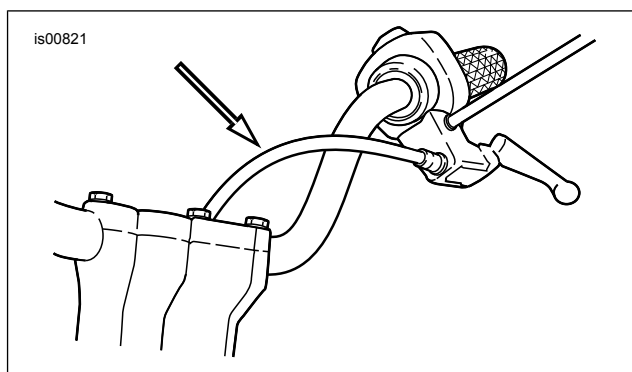

Figure 2. New Clutch Cable Routing
2. Holding the cable adjuster with a 1/2 in. wrench, loosen jam nut (3) with a 9/16 in. wrench. Back jam nut away from cable adjuster. Move adjuster toward jam nut to allow free play at hand lever.
5. See Figure 2. Re-route the clutch cable to inside of handlebars.